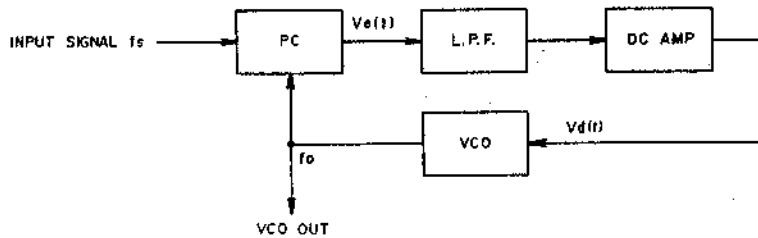

Fig. 13 PLL Circuit
PLL circuit is a kind of feedback circuit and is comprised of a Phase Comparator (PC), a Low Pass Filter (LPF), a Direct Current Amplifier (DC Amp.) and a Voltage Control Oscillator (VCO) as shown in Fig. 13. The PC compares input signal  $F_s$  and VCO oscillator output and generate the difference in signal voltage  $V_e(t)$  proportionately to this phase deviation. This  $V_e(t)$  passes LPF and the DC Amp. and becomes control voltage. This control voltage supplied to VCO and VCO oscillation frequency is DC controlled. When there is no input signal  $F_s$ , because there is also no  $V_e(t)$ , control voltage  $V_d(t)$  becomes zero, and VCO maintains a \*Free-running oscillation frequency. When a signal enters, VCO oscillation frequency  $F_o$  is controlled to narrow the difference between  $F_s$  by means of feedback as described above, and the PLL circuit assumes a synchronous condition. This is referred to as input signal lock. (In case the difference between  $F_o$  and  $F_s$  is too large, the differential signal frequency becomes high and is reduced at the LPF. However, because the VCO control voltage does not change, PLL will not stay within the \*lock range).
On the other hand, the difference signal of both (L-R) is changed to high frequency through the use of the sub carrier, and is referred to as the sub channel signal. The carrier is further frequency modulated and sent to the FM stereo transmitter. Accordingly, for composite stereo signal demodulation, the sub carrier used for demodulation at the transmitter must be the same uniform 38 kHz signal as the frequency and phase. If the 38 kHz waveform is asymmetrical, channel separation will become poor. At the PLL employed MPX stereo demodulator circuit, as shown in Fig. 13 first a 76 kHz signal is oscillated and when this passes the divider, a symmetrical 38 kHz signal is obtained.